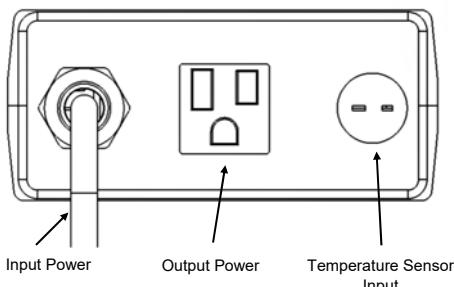

Figure 1
4. Plug the temperature controller's power cord into the Output Power receptacle of the limit control (see Figure 1).